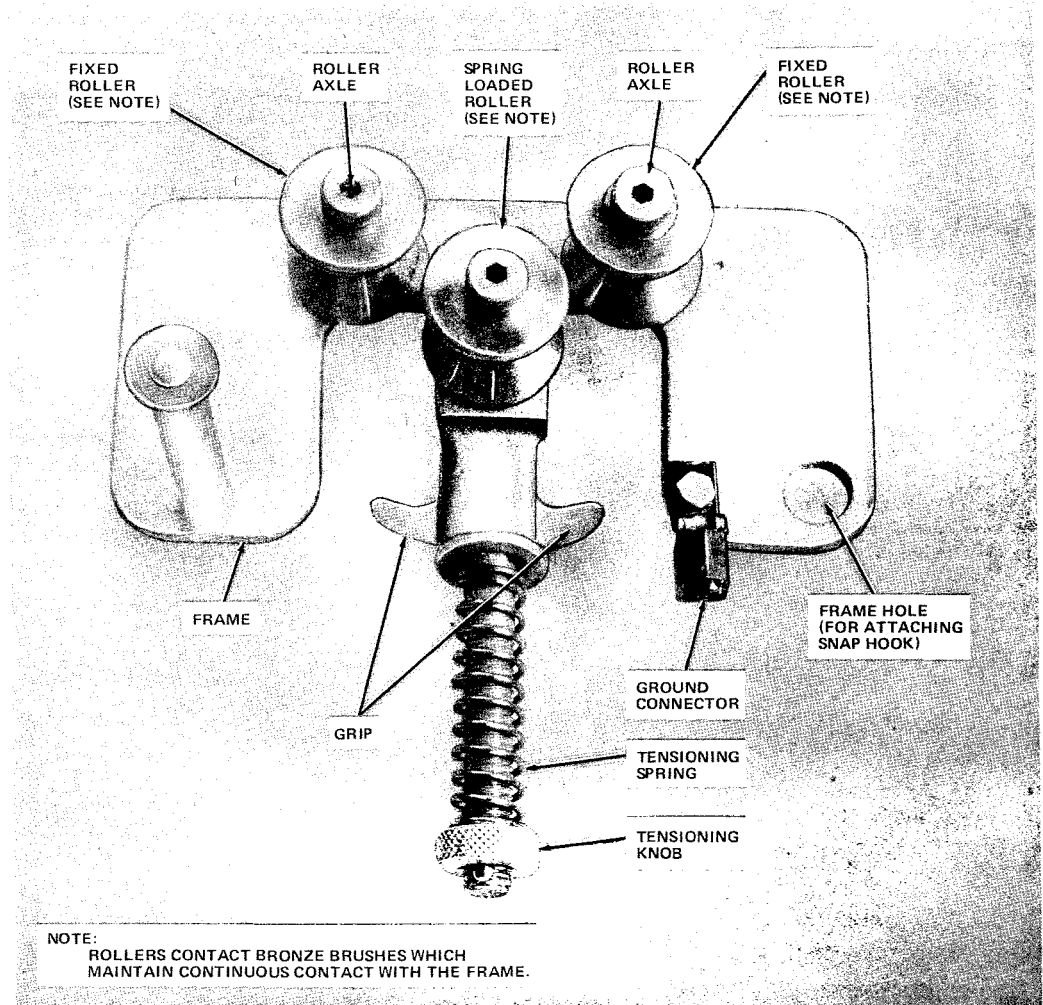
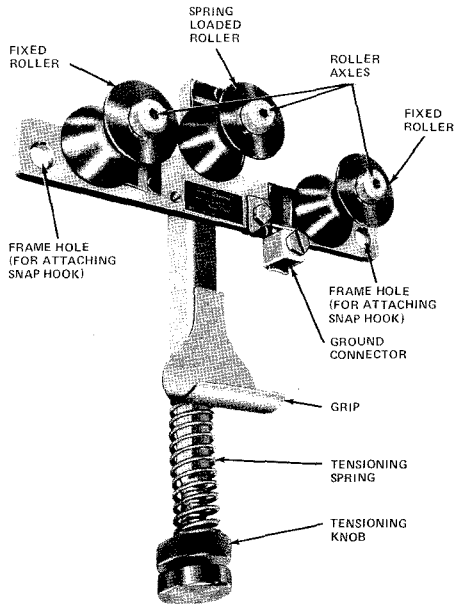

Fig. 1—B Grounding Roller—Current Design
Fig. 2—B Grounding Roller—Early Design
2.01 The B grounding roller of current design is shown in Fig. 1. Figure 2 shows a B grounding roller of earlier design.
2.03 To provide a means of attaching the roller to a pole, a hole is located in the frame as shown in Fig. 1 and 2.